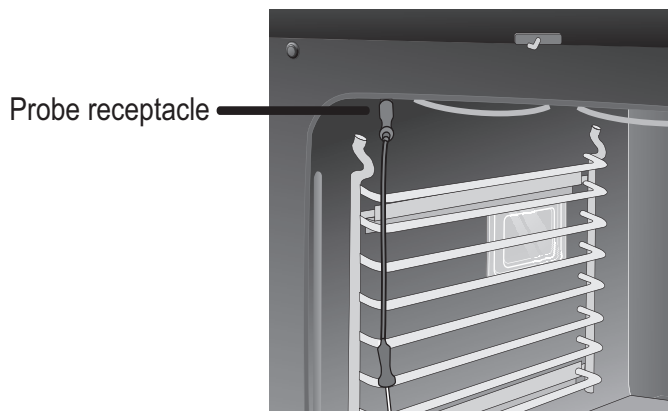

Figure 23: Using the probe
Do not use kitchen utensils to pull on the probe cable or handles. Always insert and remove the probe using the provided handles, as shown in Figure 23, and always use a pot holder to protect hands from possible burns.
2. Plug the connector end of the probe all the way into the probe receptacle while the oven is still cool. The receptacle is located on the upper left front oven cavity wall (See Figure 23).